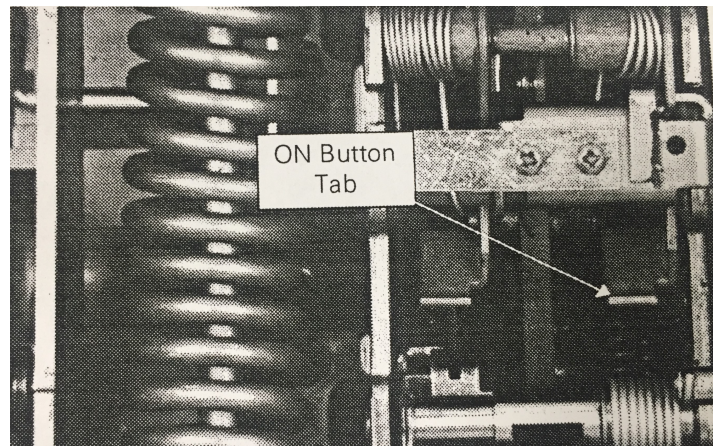

Figure 2 Tab on the breaker mechanism engaged by the On button.
3. Locate the tab on the breaker mechanism that is normally engaged by the on button, shown in Figure 2.